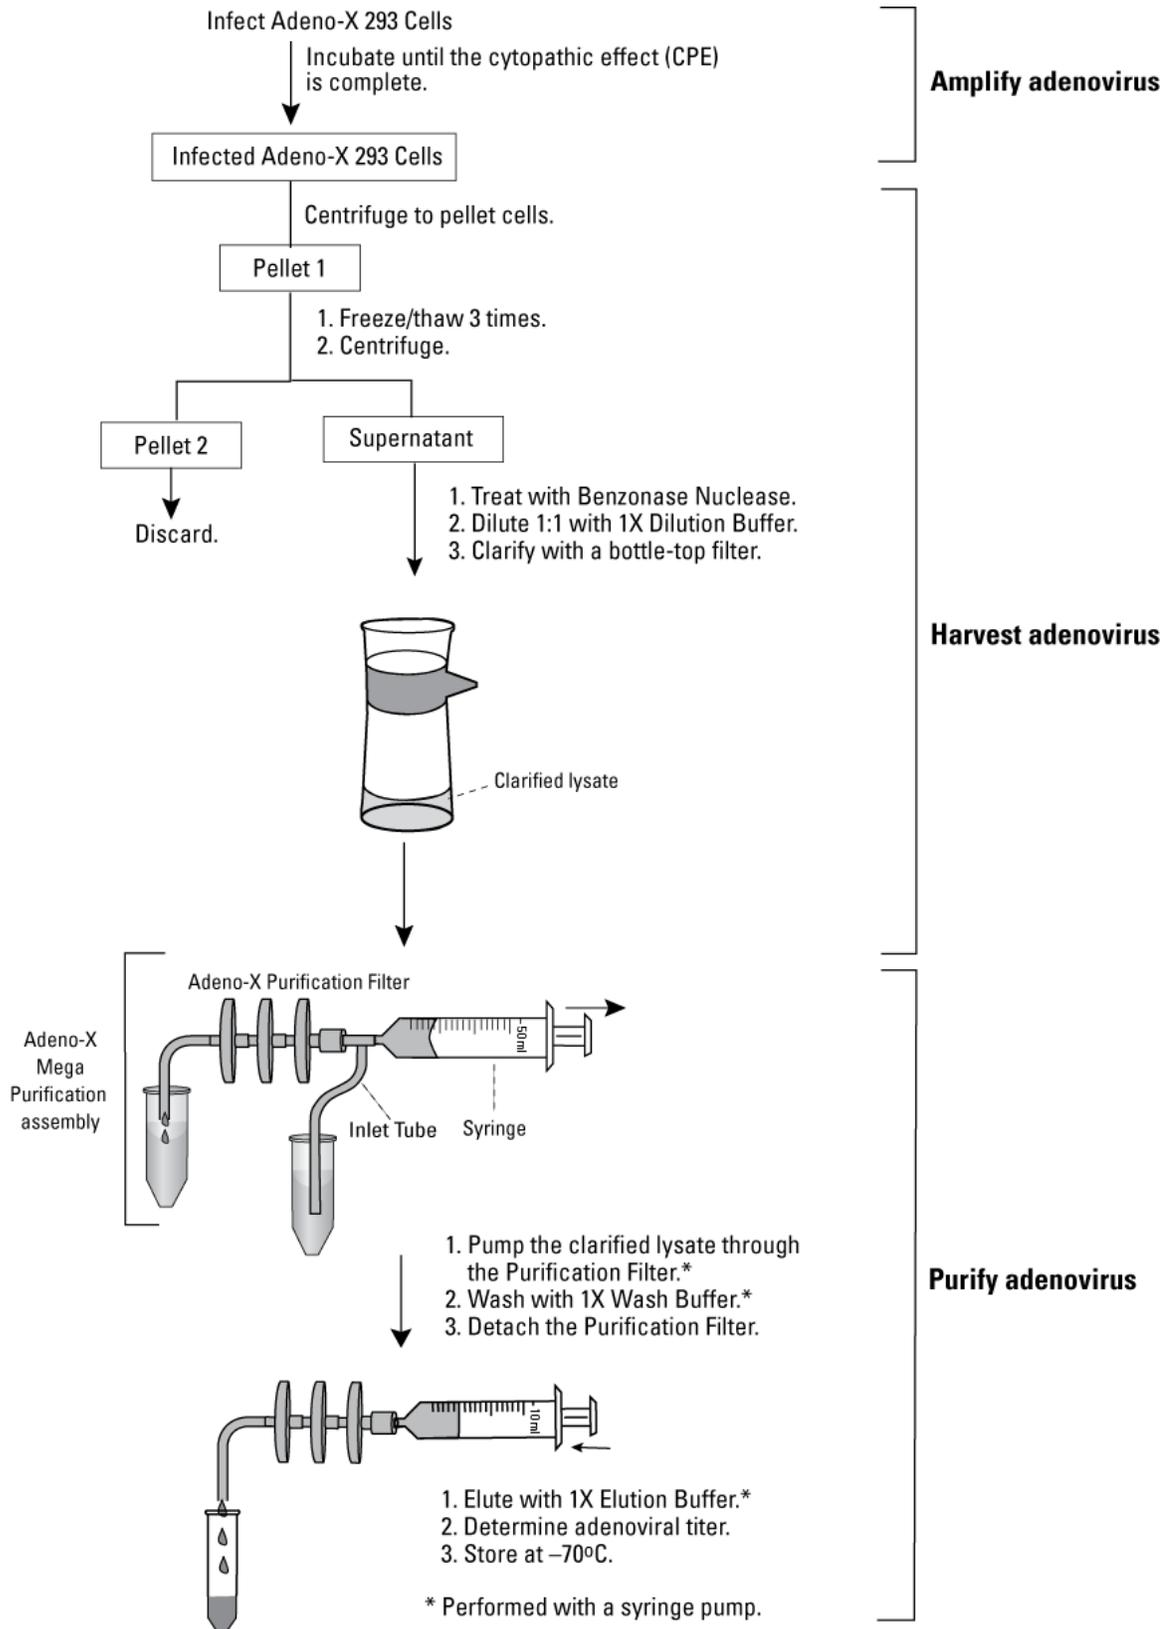

Figure 2. Overview of the Adeno-X Mega Purification Protocol.
The procedure is simple. After the cytopathic effect is complete, the cells are harvested, lysed, and centrifuged. The resulting supernatant is then treated with Benzonase Nuclease to digest nucleic acids and cleared (clarified) through a bottle-top filter unit. This clarified, virus-containing lysate is then drawn into the purification assembly through a one-way valve. The assembly is placed into a syringe pump, and the lysate is pumped through the purification cartridge, where the adenoviral particles bind to the membrane. The bound particles are then eluted with a small volume of buffer. The entire protocol, from harvest to purification, takes just 1-1.5 hours to complete (Figure 2). Aliquots of the purified, high-titer adenoviral stock can be stored in Elution Buffer at -70°C . Please note: All of these steps must be conducted under sterile conditions in a Biosafety Level 2 certified hood.
(See Figure 2 for a procedural diagram)
1. Equilibrate the Purification Assembly with 10 ml 1X Equilibration Buffer. To do this, place the inlet tube into the buffer and draw the buffer into the syringe by pulling back on the plunger. Disconnect the syringe from the Assembly and force the air out of the syringe by pressing on the plunger. Reconnect the syringe and place the entire Assembly into the pump (see Figure 2). Pump the solution through the Purification Assembly at a rate of 3 ml/min, until ~0.5–1 ml of solution remains in the syringe.
6. Remove the Purification Assembly from the pump. Separate the Purification Filters ('Membrane Stack') from the 1-Way Valve (see Figure 2) and set aside.